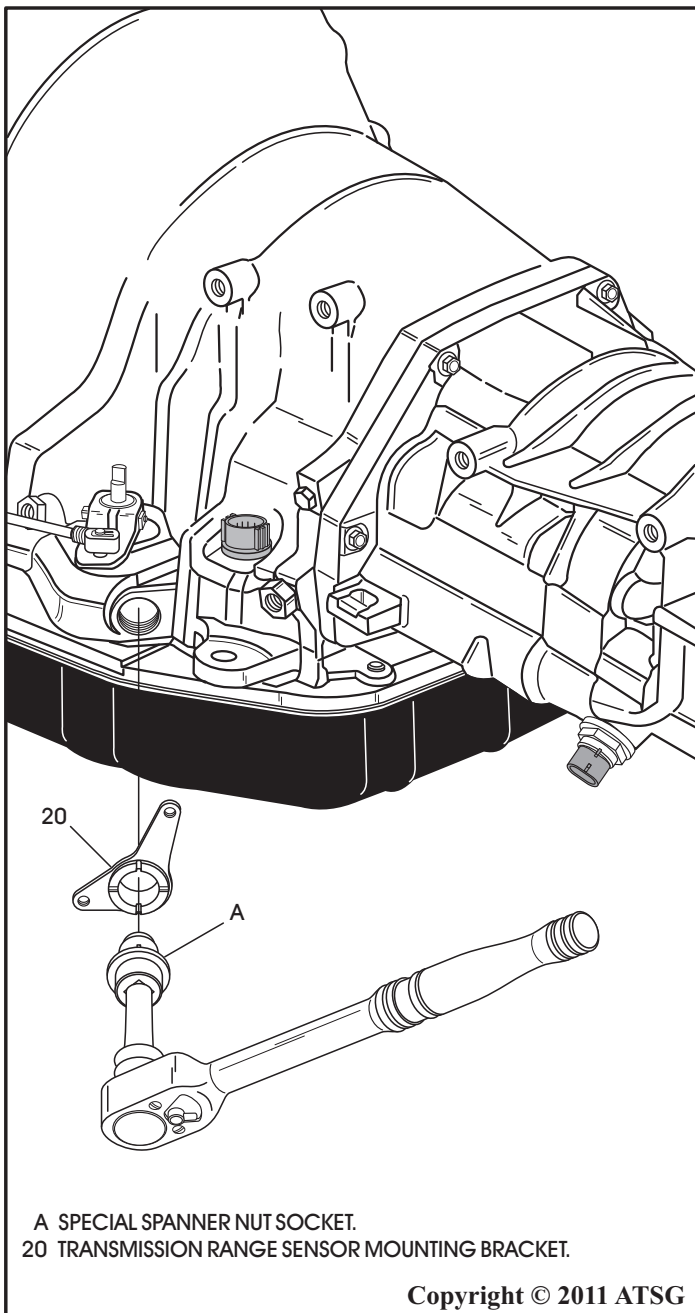

Figure 61
8. If it does become necessary to remove the range sensor mounting bracket, it requires a special spanner socket, as shown in Figure 61.